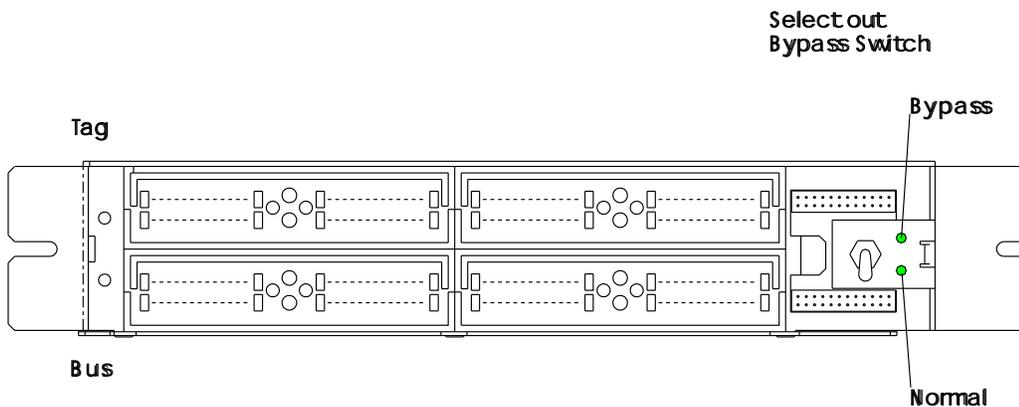

Figure 4-130. Select Out Switch
7. At the channel tailgate connectors, set all the select out bypass switches to **Bypass**. Refer to Figure 4-130.